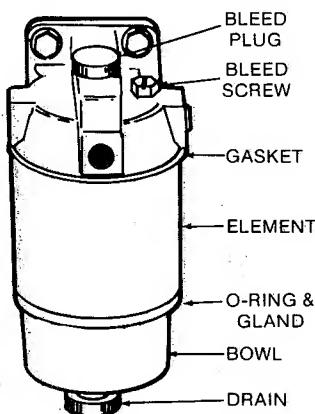

FIGURE 7. FUEL FILTER ASSEMBLY
1. Loosen drain and bleed screws. Collect fuel in suitable container. Remove bleed plug. See Figure 7.